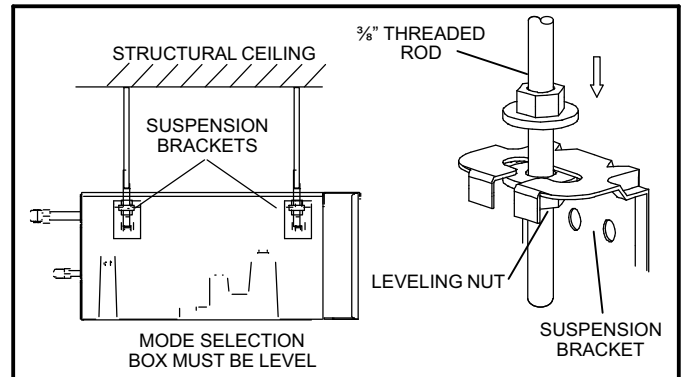

Figure 2. Suspension Hardware
- The mode selection box must be leveled after installation. See figure 2.
- 3 - Raise the mode selection box and insert the threaded rods into the suspension brackets. Slide a washer and then a nut onto each rod below each suspension bracket. Use the leveling nut (beneath suspension bracket) to adjust the mode selection box. Remove the electrical tape holding the upper washers and nuts in place and tighten each of the four nuts above the brackets down onto the brackets. **The mode selection box must be level.** See figure 2.